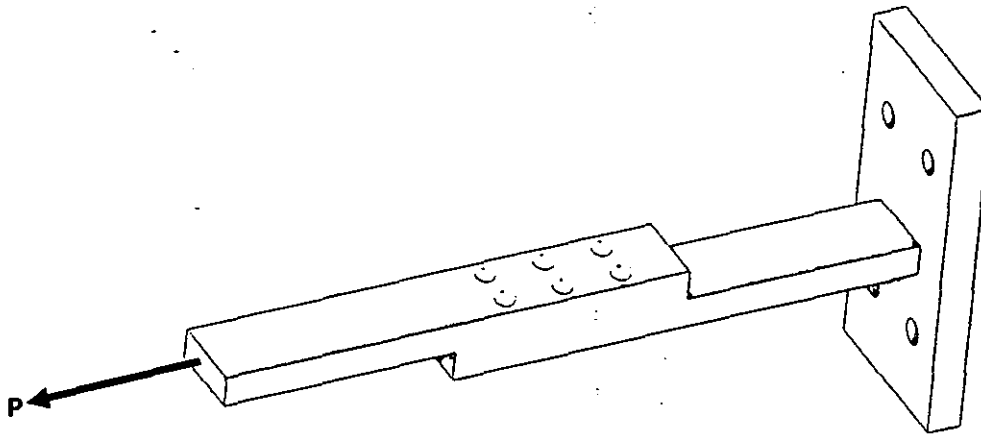

Figure 2. Suspension mechanism for additional patient support
3. To further support any patient who uses the parallel bars, the engineer comes up with a suspension mechanism which can be attached to a torso strap. The suspension mechanism is as shown in Figure 2 below. It consists of two rectangular bars arranged in a triple riveted single lap joint. [thickness of bar = 2 cm, cross-sectional area of bar =  $10 \text{ cm}^2$ , length of bar = 20 cm, diameter of rivet = 1 cm, allowable tensile stress of bar material = 690 MPa, allowable shear stress of rivet material = 320 MPa, allowable crushing stress of rivet = 640 MPa, allowable crushing stress of bar material = 600 MPa, pitch of rivets = 3 cm]
- State and illustrate with sketches three (3) ways in which the joint could fail. (9 marks)
4. You have been accepted as an intern in the engineer's firm. To evaluate your practical knowledge and skills, you are asked to build a prototype of the suspension mechanism in Figure 2. A large slab of metal and the dimensions of the prototype are provided. Sequentially outline the steps you would take in the workshop to realise the prototype. Indicate the tools you would use as well as two (2) safety precautions you would take. (20 marks)